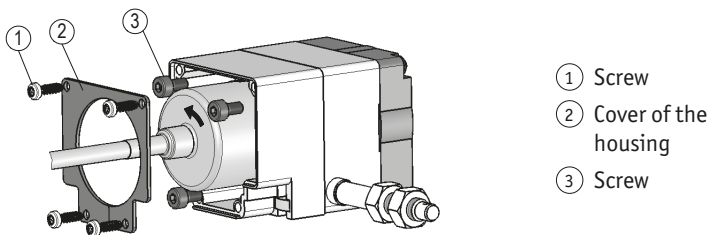

Fig. 9: Incremental encoder adjustment
2. Turn potentiometer Pe ③ until an output voltage 10 mA is measured.
5.4 Incremental encoder adjustment (Fig. 9)